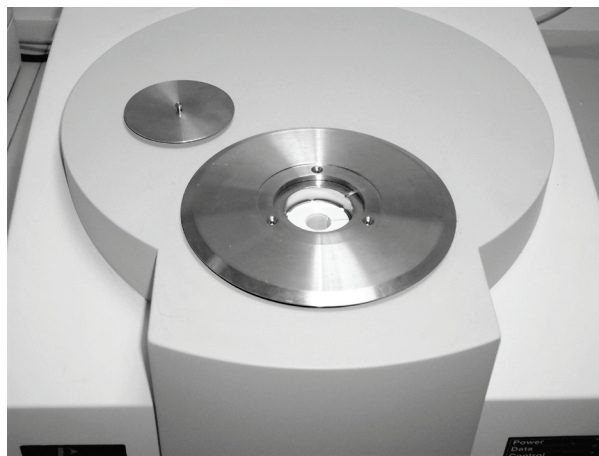

Figure 42 STA 6000 with furnace lid and securing screws removed
2. Below the lid, loosen and remove the three fixing screws (Figure 42).